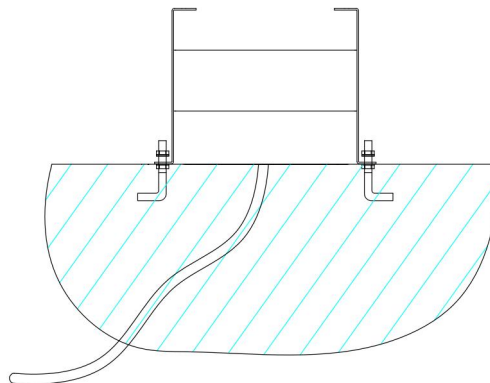

Figure 10
- Position the mounting base and fix it as per Figure 10.